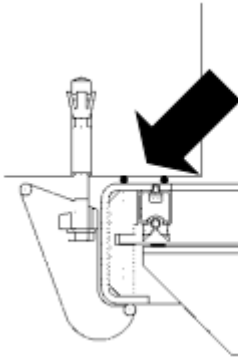

Fig. 4
- Prior to final fixation, pull frame slightly away from the wall in order to place two rows of sealant (according supplier's instructions) behind the frame and transverse seal up to the max. height of water head, respectively to the transverse seal (Fig. 4 and 6). If bottom seal is bolted, sealant shall also be placed there.